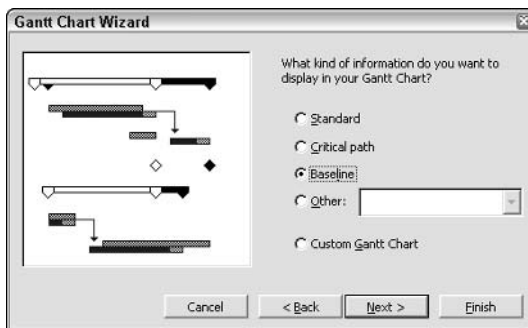

Figure 8-2: The preview provides an idea of how each option formats your Gantt Chart.
2. Click Next to move to the next step. In the second wizard dialog box, as shown in Figure 8-2, indicate the category of information that you want to display. You can select only one item here. Try clicking each of the following choices to see a preview of its style on the left of the dialog box:
- **Baseline:** Displays baseline taskbars and progress taskbars separately, rather than superimposed as with the Standard setup, as shown in Figure 8-2.